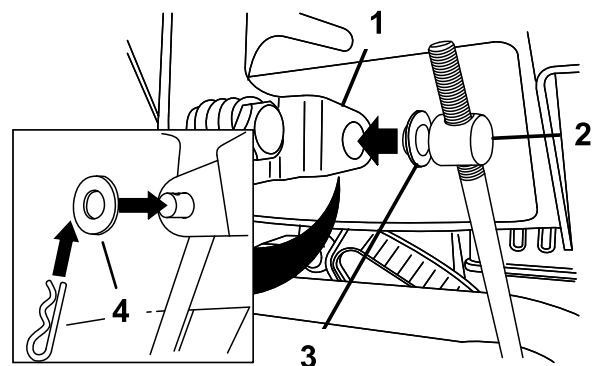

Figure 11
3. Remove the hairpin cotter and the outer washer from the trunnion on the upper end of the speed control rod (Figure 11).
Note: To make installation easier, leave the flat washer on the trunnion (Figure 11).
6. Lift up on the speed control rod and insert the trunnion into the hole in the speed selector lever (Figure 11).
- B. Disconnect the trunnion from the speed selector lever (Figure 11).
- C. Turn the trunnion downward (clockwise) on the speed control rod (Figure 11).